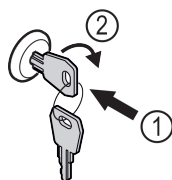

Fig. 129
- ▶ Insert key Fig. 129 (1).
- ▶ Turn key clockwise by 90° Fig. 129 (2).